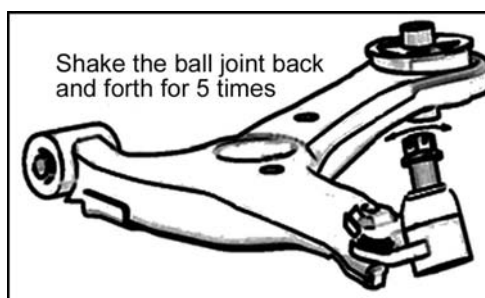

Fig. 2-16
- ① Before installing nuts, shake the ball pin bolt for over 5 times as described in Fig. 2-16.
- ② Use a torque wrench to rotate the nuts at a speed of a turn for each 2-4s, and record the